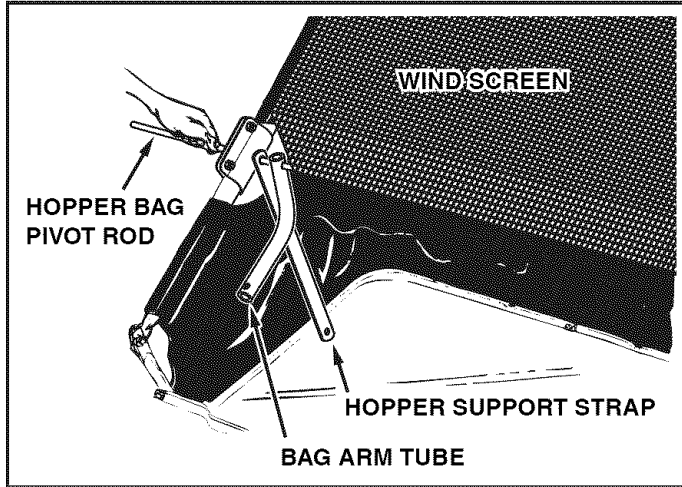

FIGURE 15
- Slide the end of the pivot rod through the upper hopper tube and the hopper mount clamps on one side of the hopper. Place a hopper support strap and then a bag arm tube onto the rod. Slide the rod through the stitched sleeve at the front edge of the wind screen, and then place another bag arm tube and a hopper support strap onto the rod. Slide the rod through the other upper hopper tube and hopper mount clamps. See figure 15.